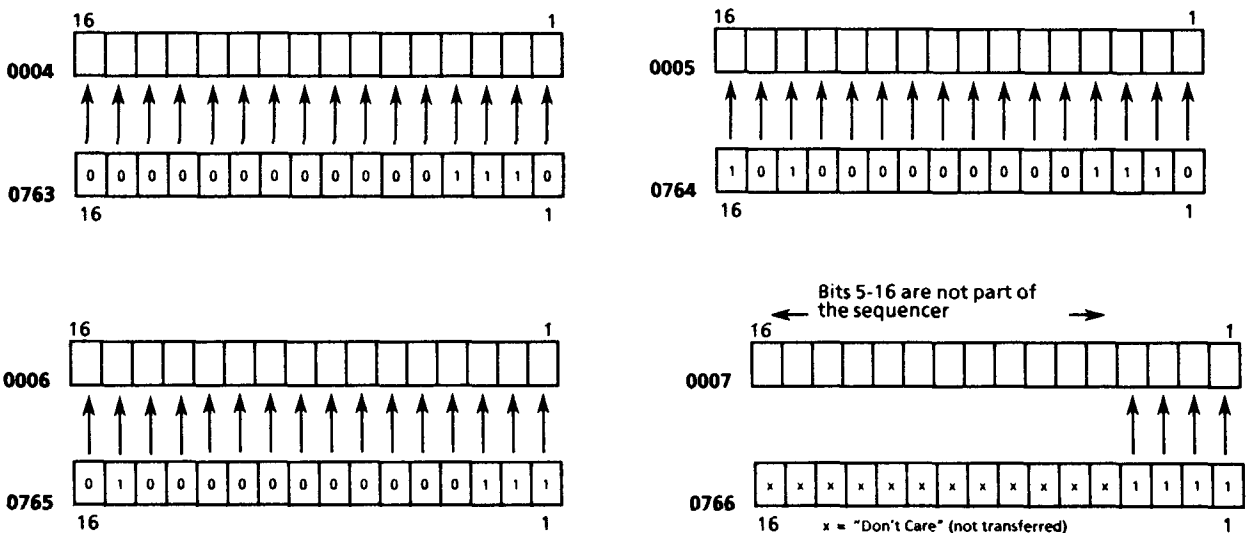

Figure 11.10 Transfer Of 52-Bit Output Width
- 0762 (D12) . Input Condition Advance. Assume a step advance is enabled when bits 1, 3 and 4 of register 0001 are set to "1". Preset to 13 (decimal value. For corresponding binary pattern, see Figure 11.10).
- 2A. If the output width in this example was specified as 52 instead of 12 (register 0756 = 52), additional output registers would be used. As shown in Figure 11.10, all 16 bits of registers 0763, 0764 and 0765, along with bits 1 through 4 of register 0766 are written to registers 0004, 0005, 0006 and the first four bits of 0007. If the bit patterns of Figure 11.10 are involved in a transfer, it is necessary to preset register 0764 with the decimal value -24,562 (A00EH), register 0765 with decimal 16,391 (4007H), and register 0766 with decimal 15 (000FH). These settings allow the multi-register transfer to take place.